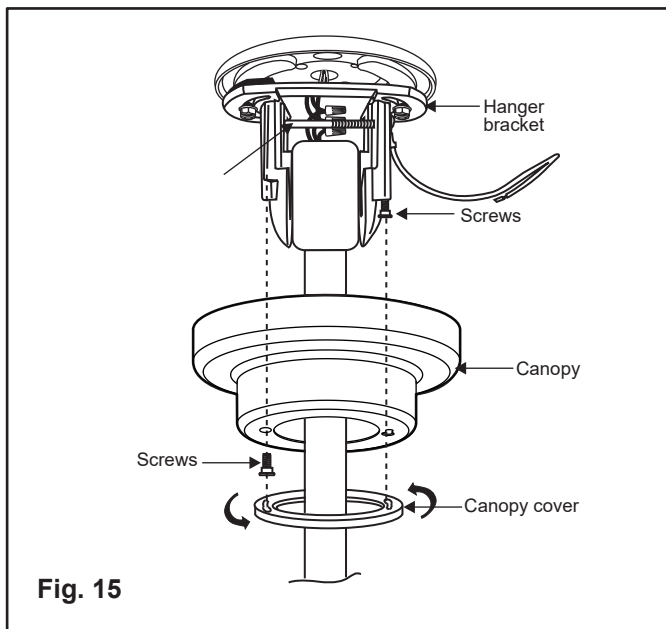

Fig. 15
4. Slide the canopy up to the ceiling and place the mounting screws through the key holes in the face of the canopy. Rotate canopy clockwise. (Fig. 15)